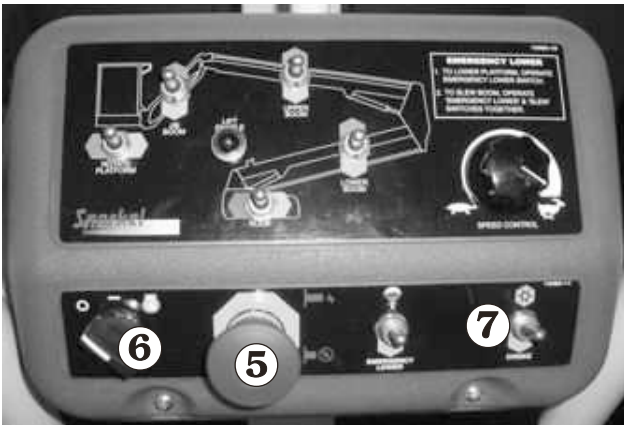

Figure 8.7
4. Set the **Emergency Stop** switch **5** to (ON) (see Figure 8.7).
5. Turn the **Start** switch **6** to ON (see Figure 8.7).
6. If the engine is at ambient temperature (cold), hold the **Choke Switch** **7** (see Figure 8.7) up throughout the next step.
7. Turn the **Start** switch **6** to START and hold it there until the engine starts or for a maximum time of 6 seconds. When the engine starts, release the key (6) and the choke switch **7**, if you used it (see Figure 8.7).